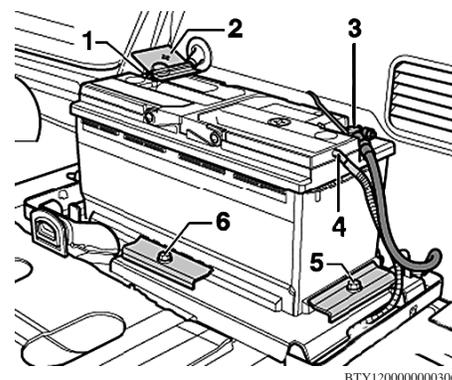

Fig. 2 Battery removal
6. Disconnect ground terminal (3) from battery post by loosening hex nut, Fig. 2.
7. Flip up positive cover (2), Fig. 2.
8. Disconnect positive terminal (1) from battery post by loosening hex nut, Fig. 2.
9. Remove central vent hose (4), Fig. 2.
10. Remove battery bracket mounting bolts (5, 6), Fig. 2.
4. Install central vent hose (4), Fig. 2.
5. Reinstall battery hold-down bracket, and torque bolts (5, 6) to 11 ft. lbs., Fig. 2.
6. Connect positive terminal (1) to battery post, and torque hex nut to 53 inch lbs., Fig. 2.
7. Connect ground terminal (3) to battery post, and torque hex nut to 53 inch lbs., Fig. 2.